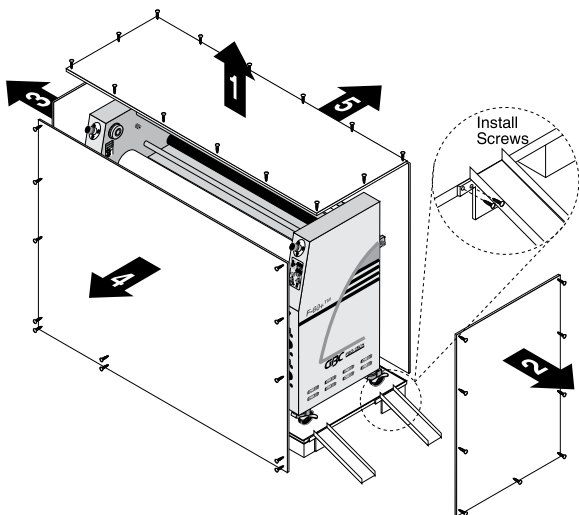

Figure 2-3: Removing the Crate
1. Remove the top of the crate and sides 2 and 3 as shown in Figure 2-3.
**A second person must support the side labeled (5) in Figure 2-3. It can fall and damage the laminator.**
10. The ramps included with the laminator can be secured to the edge of the crate bottom using the screws left over from the crate disassembly (see Figure 2-3).
Roll the machine off by securing included ramps to the edge of the crate bottom using the screws left over from the crate disassembly (See Figure 2-3).